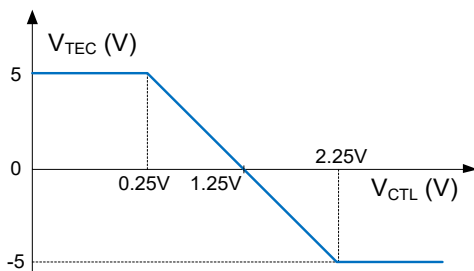

Figure 4. V_{TEC} Linear Relationship with V_{CTL}
A thermoelectric cooler is a heat pump that transfers the heat between its two surfaces depending on its voltage polarity. The TEC terminals are placed between the linear regulator (LDO) output (VOL) and the PWM regulator (synchronous Buck) output. The Buck output voltage is sensed by VOS pin. The Buck external inductor is placed between the switching node (SW) and the TEC terminal that is connected to VOS. So, the TEC bipolar voltage is $V_{TEC} = V_{VOL} - V_{VOS}$. Both LDO and Buck outputs can sink or source current up to 1.5A. V_{TEC} is controlled to have a linear relation with the V_{CTL} input but is limited to the lower of V_{IN} and V_{LIM} as shown in Figure 4.